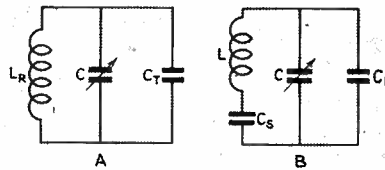

Fig. 1 — Oscillator with shunt trimmer across tuning condenser
Figure 1A shows a typical r-f circuit, where C_T is the r-f trimmer and C the main tuning condenser. Figure 1B shows the conventional oscillator circuit, where C_H is the shunt trimmer, C_S the series trimmer, and C the oscillator tuning condenser. For the moment both tuning condensers will be considered as being identical, although this is not a necessary condition. The only thing required to know about C is its minimum and maximum capacity. This information is supplied by the manufacturer of the gang condenser, or can be readily measured. The condensers C in Fig. 1 are assumed to vary from zero to maximum capacity. In other words the minimum capacity is considered to be part of the shunt trimmers in both the r-f and oscillator circuits.
Equations (9), (11) and (12) yield all the necessary information for tracking the circuit of Fig. 1.
Fig. 1—Attenuation of short waves generated at the transmitting antenna, T, and picked up at the receiving antenna, R, when the transmission path is over reflecting surface of the earth
"Automatic Radio Relay Systems for Frequencies Above 500 Megacycles" was the title of a paper delivered by J. E. Smith of RCA Communications. The discussion had special reference to television relay systems and the relay setup between Camp Upton on Long Island and New York City was described in some detail. Several relay stations are used here with little degradation in the quality of the signal. Wave propagation as applied to the transmission of 500-Mc signals over a reflecting surface, such as the earth, was discussed and the illustration of Fig. 1 shows a typical arrangement of transmitting and receiving antennas with respect to the earth's surface together, with the formula for attenuation over such a path. It was stated that atmospheric noises in this part of the spectrum do not interfere to any considerable degree with the signal, but that thermal noise in the circuits and fluctuation noises do cause interference. In this type of service the speaker said that